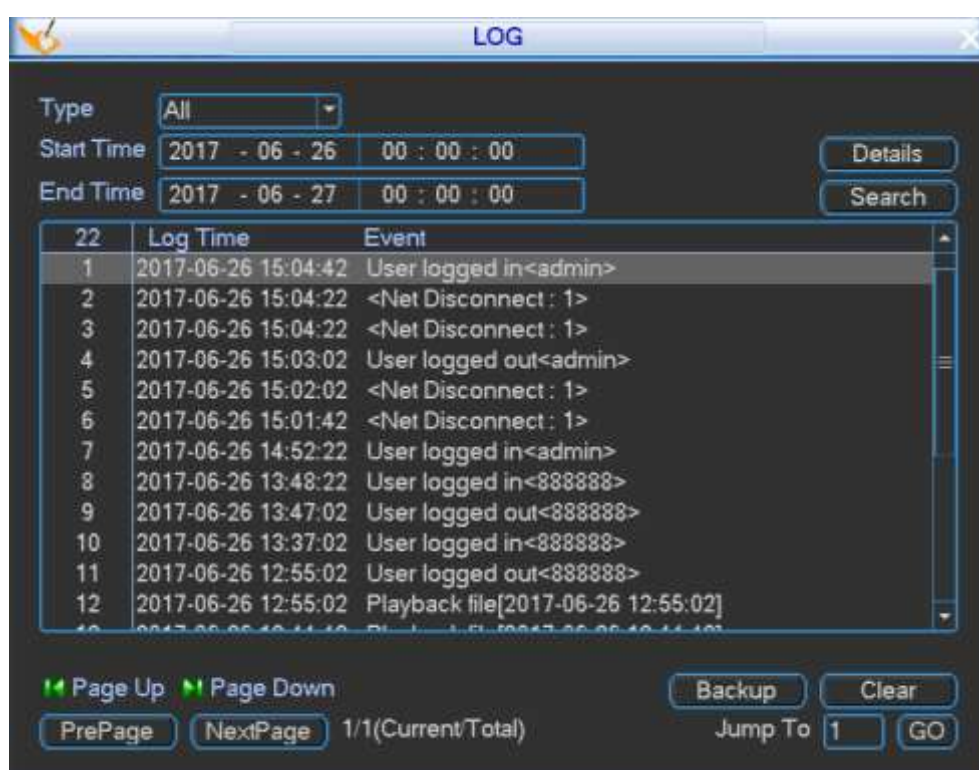

Figure 4-99
Step 1 From Main menu->Info->Log, enter log information interface. See Figure 4-99.